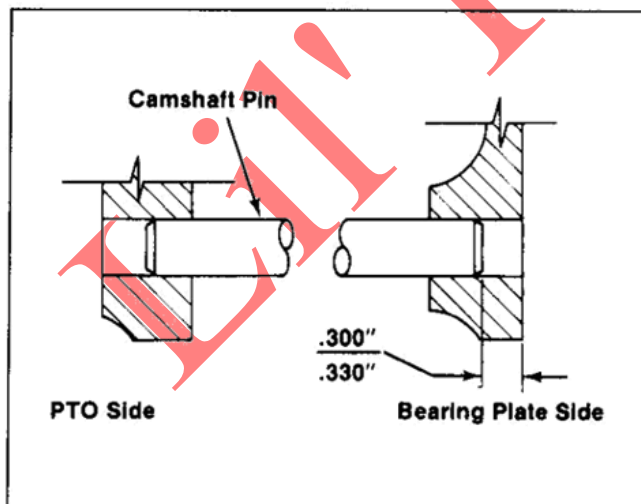

Figure 12-8. Installing Camshaft Pin.
- b. For Models K241, K301, K321, and K341 – drive the camshaft pin to a depth of .300" / .330" from the machined bearing plate gasket surface. Refer to Figure 12-8.